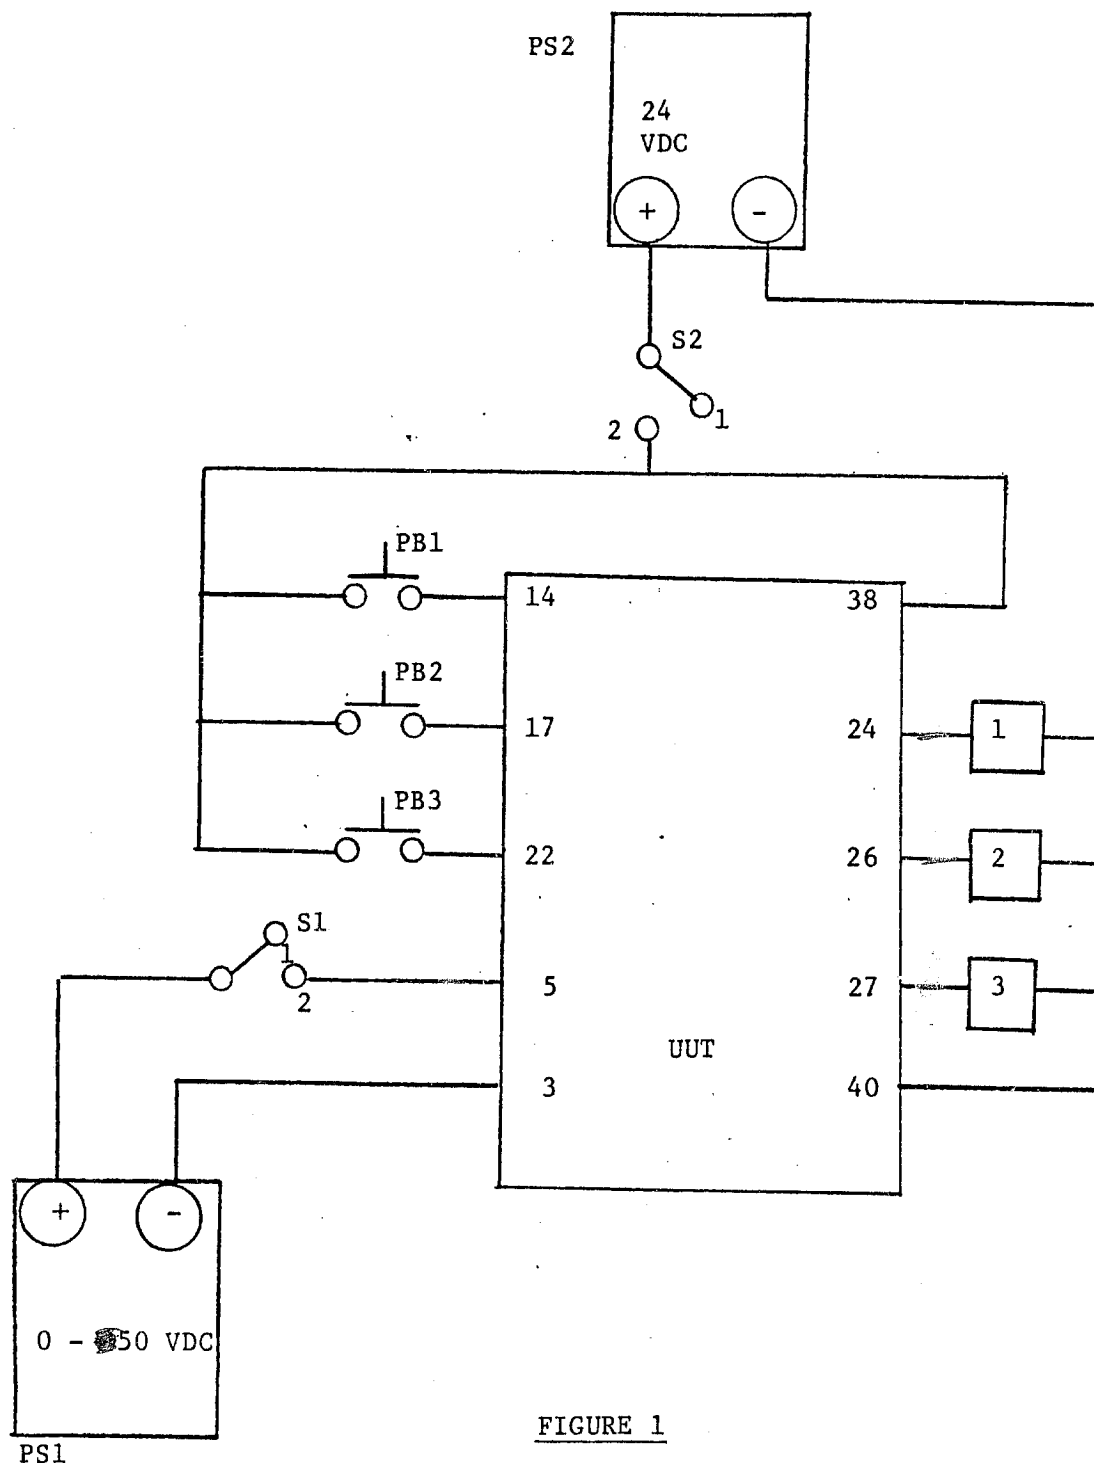

FIGURE 1
- A. Connect the board as shown in Figure 1. Set VR1 and VR2 fully CCW.